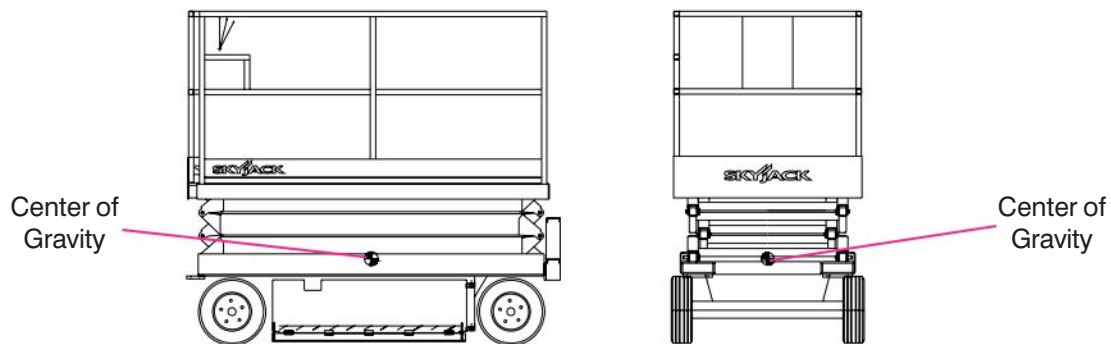

Figure 2-17. Center of Gravity
- The lifting/rigging may be attached to all four lifting points as illustrated in Figure 2-17.
The mass of the aerial platform is as per Table 2-1. The center of gravity is approximately located in the middle of the aerial platform, front to back and side to side, as illustrated in Figure 2-17. Vertically, the center of gravity is approximately just above the base chassis.